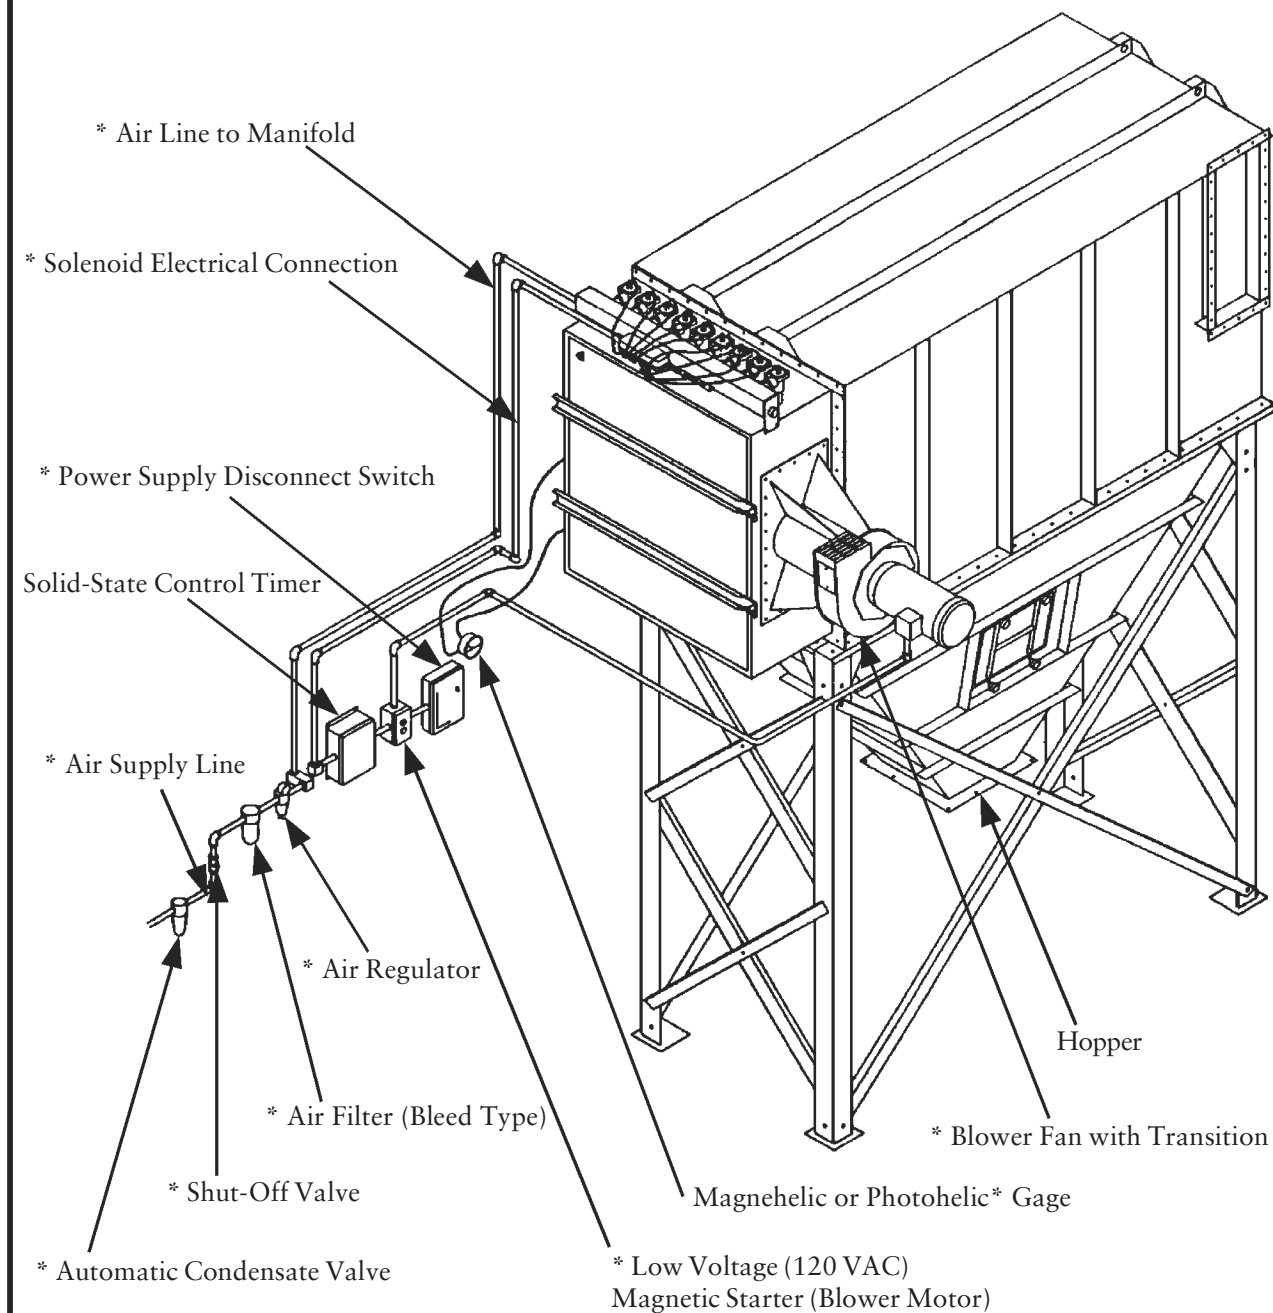

Figure 1
2.4 Preinstallation (See Figure 1)
2.5 Assembly of Standard Equipment (See Figure 1)